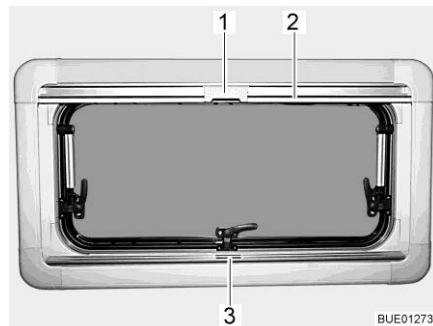

Fig. 101 Hinged window
- Grip the Roman shade in the centre of the holding bar (Fig. 101,3), pull it from the bottom to the top and then release it at the desired height. The Roman shade will stay at this height.
- Pull the insect screen down using the holding bar (Fig. 101,2), until it touches the holding bar of the Roman shade (Fig. 101,3).
- Clip the catch (Fig. 101,1) on the insect screen into the handle of the Roman shade.
- Push the catch (Fig. 101,1) on the insect screen inwards.
- Move the insect screen back slowly on the holding bar (Fig. 101,2).